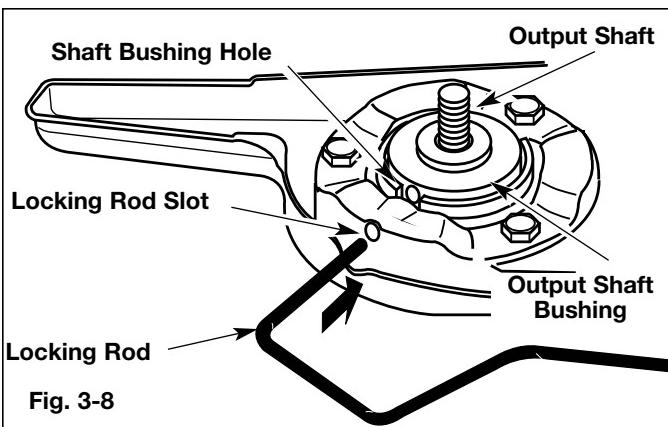
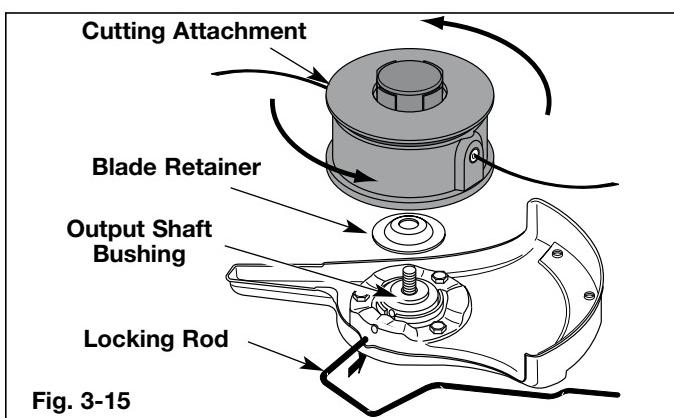

Fig. 3-8
Fig. 3-15
1. Align the shaft bushing hole with the locking rod slot and insert the locking rod into the shaft bushing hole (Fig. 3-8).
6. Align the shaft bushing hole with the locking rod slot and insert the locking rod into the bushing hole (Fig. 3-8, Pg. 10).
1. Align the shaft bushing hole with the locking rod slot and insert the locking rod into the bushing hole (Fig. 3-8, Pg. 10).
5. Align the shaft bushing hole with the locking rod slot and insert the locking rod into the shaft bushing hole. (Fig. 3-8, Pg. 10). Place the blade retainer on the output shaft with the flat surface against the output shaft bushing as shown in Fig. 3-15. Screw the cutting attachment counterclockwise onto the output shaft. Tighten securely.